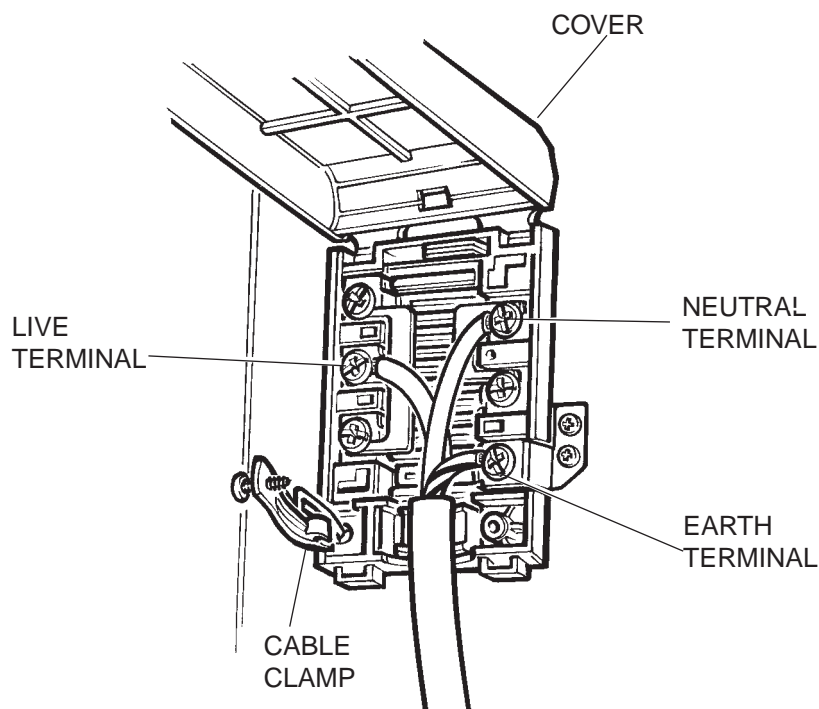

Figure 3 – electrical connections
1. Lift up the cover (Figure 3).
2. Loosen the cable clamp (Figure 3).
3. Connect the mains supply cable to the terminal block on the cooker using the following colour code (Figure 3):